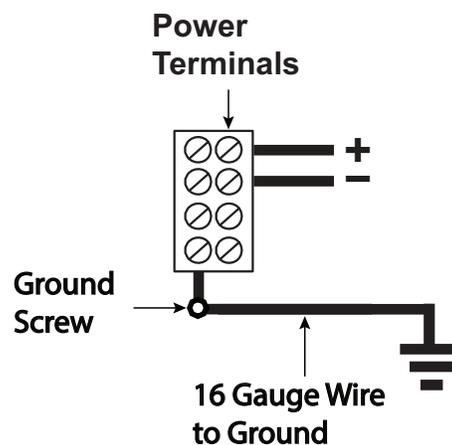

Figure 46. Grounding TX3-TOUCH-F15-C/D and TX3-TOUCH-S15-C/D
2. Attach the ground screw to a suitable grounding wire and connect it to the site ground, as shown in Figure 46.
3. Connect the load power supply wires to the Touch Screen Controller board terminal screws as shown in Figures 46 and 49.